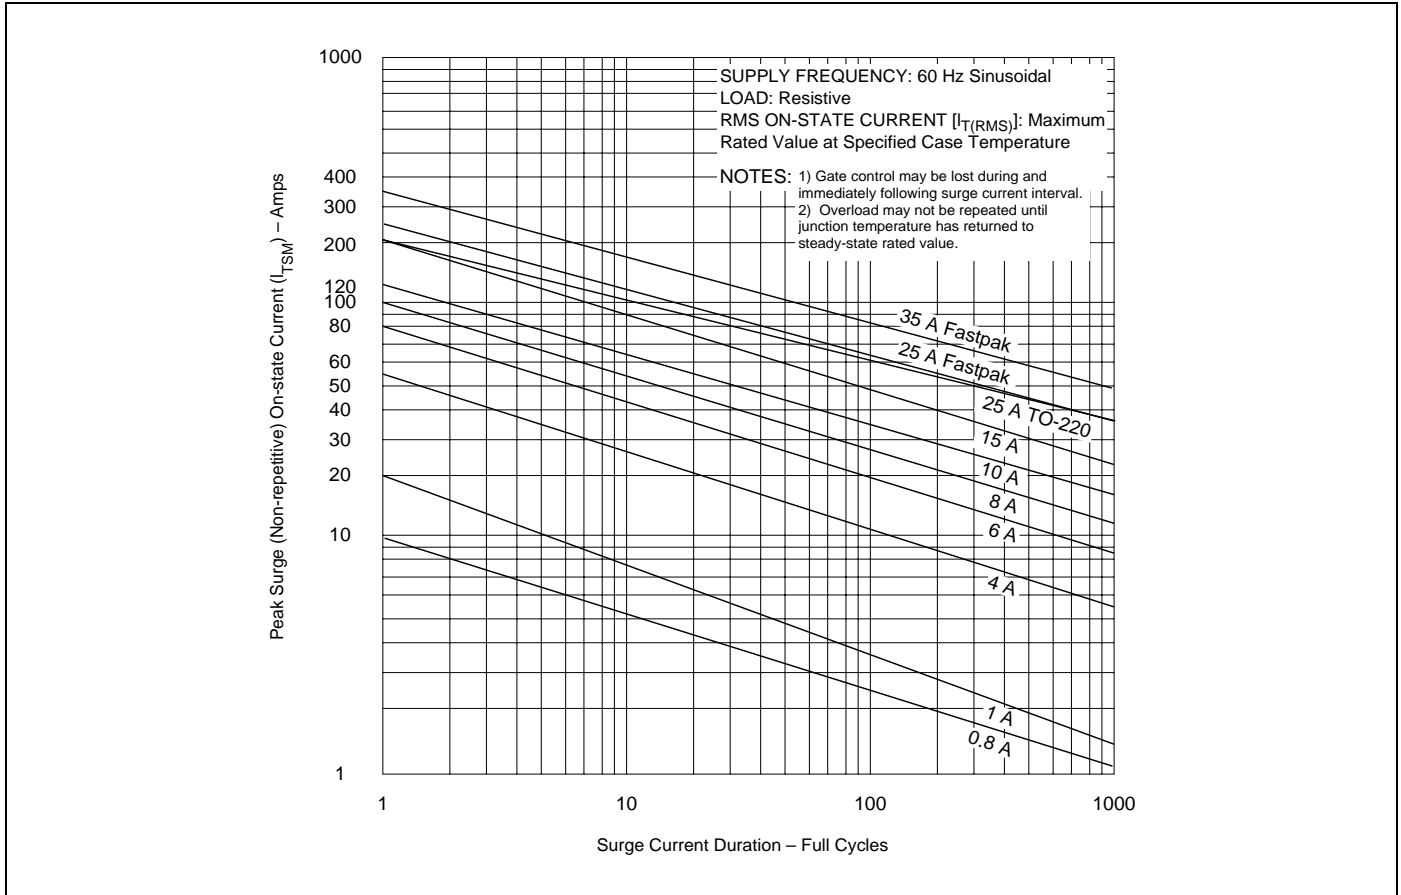

Figure E2.13 Peak Surge Current versus Surge Current Duration
- See Figure E2.13 for surge rating with specific durations.